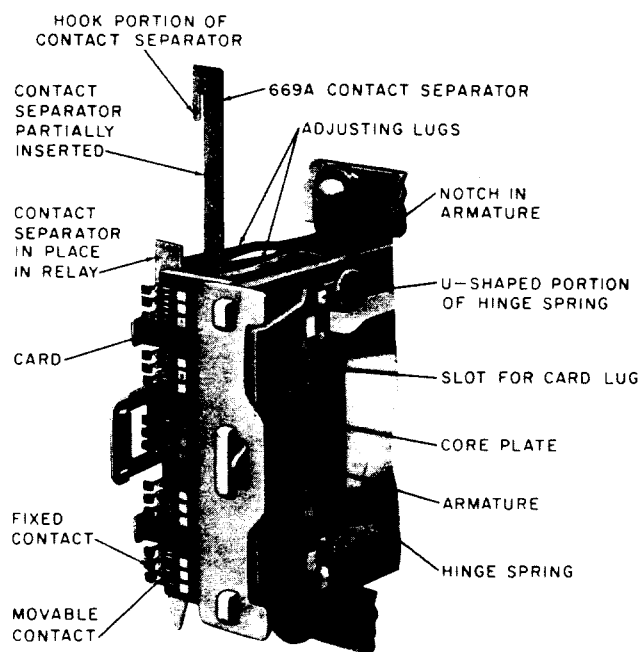

Fig. 4—286-Type Relay—Positioning 669A Contact Separator
3.06 Before proceeding with removal of parts, insert a 669A contact separator between the fixed and movable contact springs in both vertical rows as follows. Hold the contact separator with the hook portion at the left, as shown in Fig. 4, and carefully insert the tip behind the card and between the fixed and movable contact springs in one of the vertical rows. Then place the end of the KS-6320 orange stick so it bears lightly against both the right edge of the separator and the adjacent edge of the card to guide the separator during insertion. Slowly insert the separator while maintaining light pressure on the orange stick. Keep the separator vertical so the springs will remain in their proper horizontal positions and move the separator downward until the hook portion engages the upper fixed contact springs. Similarly, insert another contact separator between the fixed and movable contact springs in the other vertical row. Figure 4 shows one contact separator fully inserted and the other contact separator partially inserted.
the armature under these springs. Insert the armature under the springs with the armature stop plate toward the core. Then position the armature so the U-shaped portion of each hinge spring engages its associated notch in the armature, as shown in Fig. 4. Make sure both hinge springs fully engage the armature by pushing against the U-shaped portion with the orange stick. Position the card so the card lugs engage the associated slots in the armature.
3.20 Before proceeding with the removal of parts, insert a 669A contact separator between the fixed and movable contact springs in both vertical rows of the relay unit to be worked on as follows. Hold the contact separator with the hook portion at the left and carefully insert the tip behind the card and between the fixed and movable contact springs in one of the vertical rows in a manner similar to that shown in Fig. 4. Then place the end of the KS-6320 orange stick so it bears lightly against both the right edge of the separator and the adjacent edge of the card to guide the separator during insertion. Slowly insert the separator while maintaining light pressure on the orange stick. When working on the top unit, insert the separator from the top and, when working on the bottom unit, insert the separator from the bottom. Keep the separator vertical so the springs will remain in their proper horizontal positions and move it downward or upward, as required, until
so the U-shaped portion of each hinge spring engages its associated notch in the armature, as shown in Fig. 4. Make sure both hinge springs fully engage the armature by pushing against the U-shaped portion with the orange stick. Position the card so the card lugs engage the associated slots in the armature.